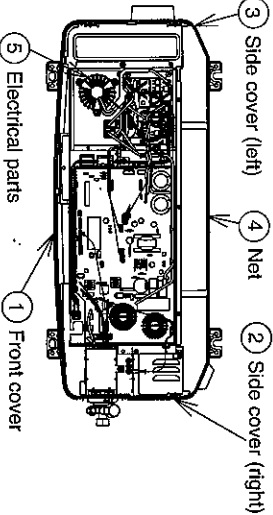

Figure 2
4. Remove external parts 1 to 8 and the main unit parts. (See figures 2 and 3.)